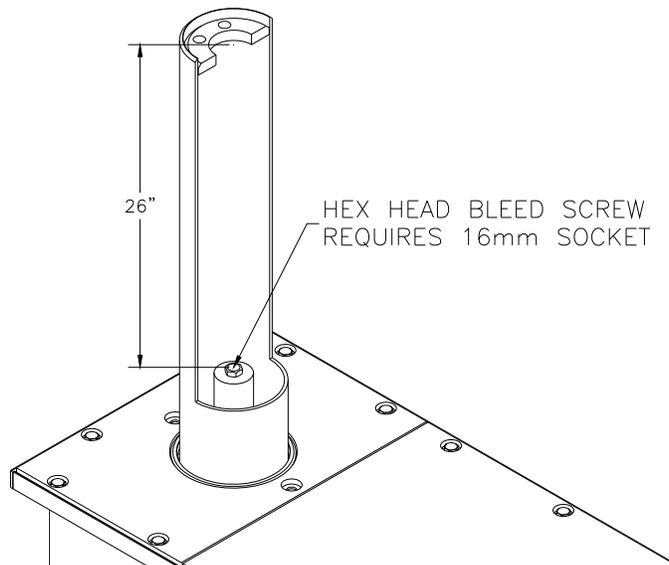

Fig. 9
22. Finish Energize the power unit to run the cylinder up about 3 feet. Loosen the bleed screw at the top of each cylinder and allow the trapped air to escape. Bleed both cylinders until clear oil is seen. Refer to **Fig. 9**. Raise the lift to full stroke and continue to run the power unit for another 10 seconds to check for hydraulic leaks.